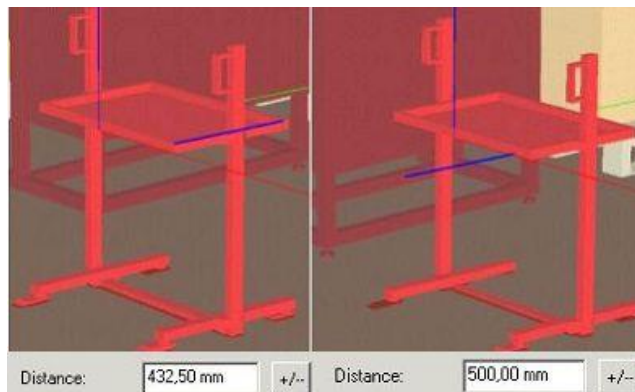

Figure 52: Example: Translating a Line with Two Points on the Graphic Object
- 3) Click *Apply*; the graphic object is translated. Press the "Close" button to close the dialog. Please refer to the Figure 52.